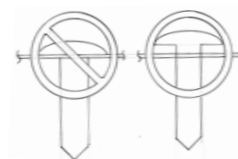

Figure 3-2
**IMPORTANT:** When attaching the Main Rails to the furring strips, **DO NOT OVER TORQUE THE SCREWS** (see Figure 3-2). By leaving a small amount of play between the screw head and the Main Rail, the Main Rail will be free to expand and contract with the change in weather. Make sure the screws are installed in the elongated hole such that they will not conflict with each other.